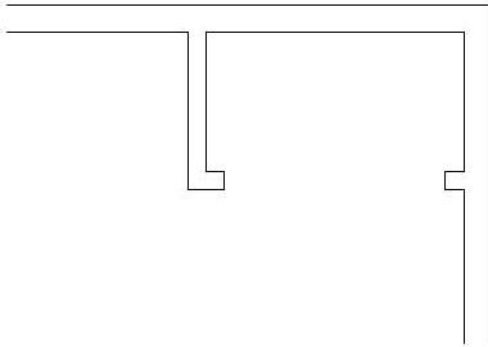

FIGURE 4.72: Pan the view to show the closet area.
3. Place the cursor near the upper jamb of the sliding glass door, and then click and drag the mouse downward until the drawing area shifts to display the closet area (see Figure 4.72).